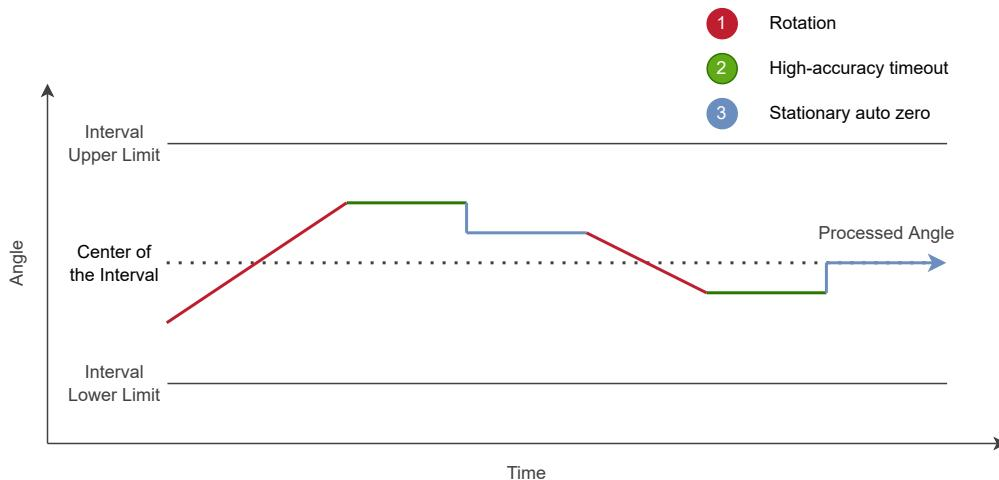

Figure 5.4: Stationary Auto-zero Behaviour
- › **Stationary:** An auto-zero event will occur when the high-accuracy timeout event occurs. A single adjustment is made to the absolute angle offset each time the device exits high-accuracy mode. The **auto-zero beta** parameter defines the size of the adjustment, with an auto-zero beta value of 0 resulting in a jump to the exact center of the interval. This behaviour can be viewed in Figure 5.4.